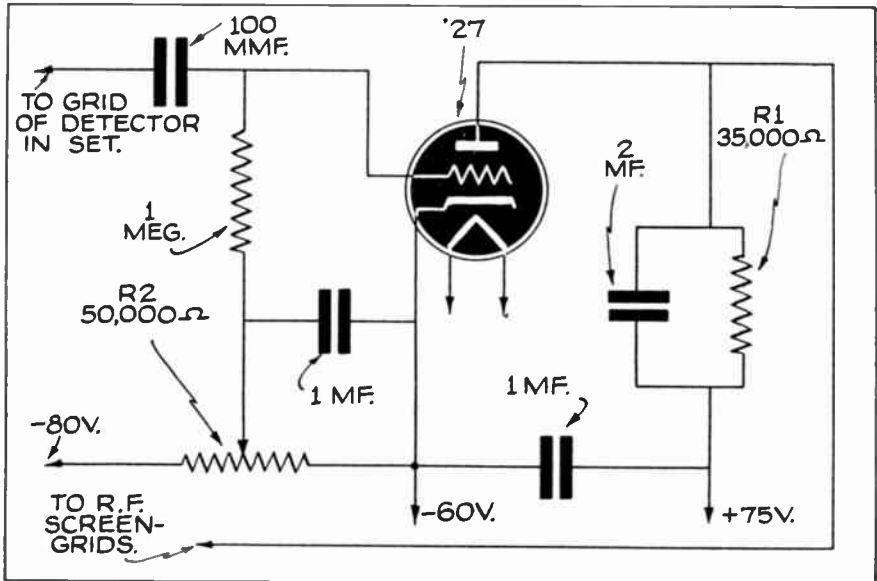

Fig. 65
(A) The I.F. stages of a superhet are so connected that their grids are biased by the same resistor which is used in the cathode-plate circuit of a diode second detector. On a strong signal, there is greater potential drop in the resistor, thus altering the bias on the I.F. grids. See Fig. 65 for diagram.